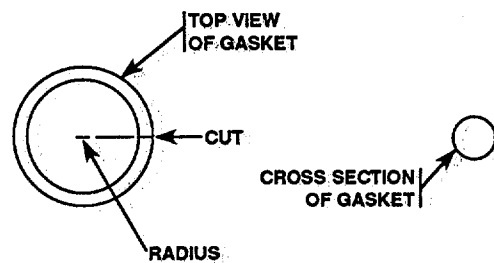

FIGURE 3-189. Cutting New Gasket.
- (3) With gasket lying on a clean flat surface (Figure 3-189), use one slicing motion to cut the gasket to avoid jagged edges. Make the cut vertically, approximately on the radius, to form an "O" section.